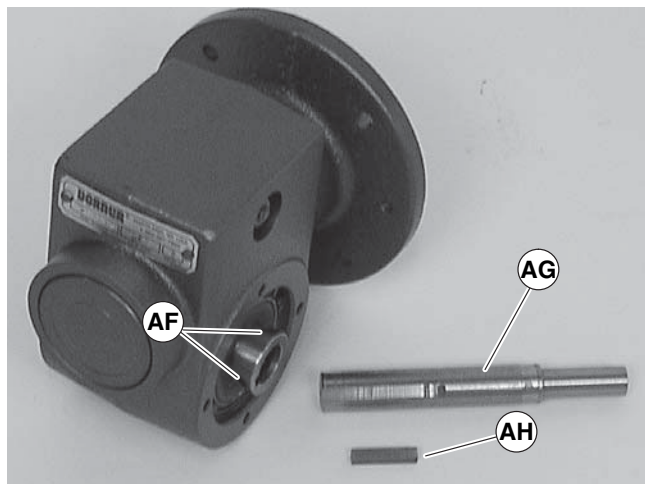

Figure 23
6. Remove two (2) screws (AC) and detach output shaft cover (AD).
7. Remove gear reducer output shaft key (AE).
8. Loosen six (6) set screws (Figure 23, item AF). Remove drive shaft (AG) and key (AH).
10. Replace the original shaft components into new gear reducer (see Figure 23).